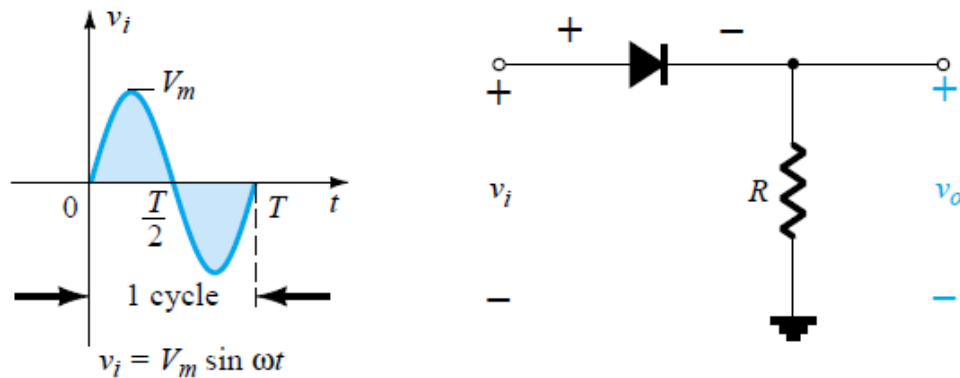
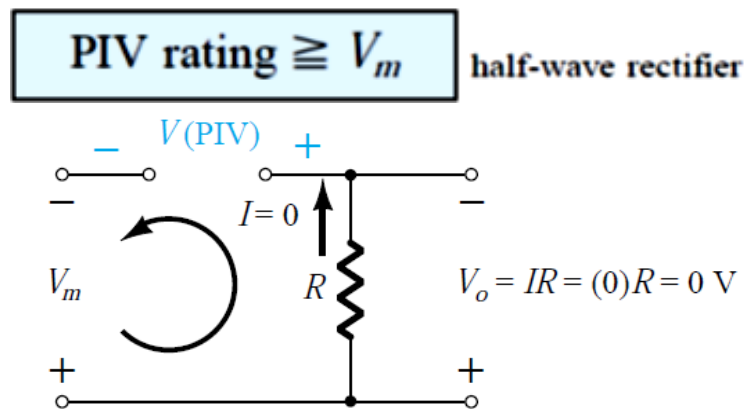

Figure 2.1: Half-wave rectifier.
Figure 2.9: Determining the required PIV rating for the half wave rectifier.
The simplest of networks to examine with AC signal appears in Figure 2.1.
- a. During the interval  $t = 0$  to  $T/2$  in Figure 2.1, the polarity of the applied voltage  $v_i$  is positive (as shown in the above figure), this Turns the Diode into ON-State (short Circuit) assuming Ideal diode. As shown in figure below, the output voltage is the same as the input voltage.
**The Peak Inverse Voltage (PIV)** [or **PRV (Peak Reverse Voltage)**] rating of the diode is of primary importance in the design of rectification systems. Recall that it is the voltage rating that must not be exceeded in the reverse-bias region or the diode will enter the Zener avalanche region. The required PIV rating for the half-wave rectifier can be determined from Figure 2.9, which displays the reverse-biased diode of Figure 2.1 with maximum applied voltage. Applying Kirchhoff's voltage law, it is fairly obvious that the PIV rating of the diode must equal or exceed the peak value of the applied voltage. Therefore,